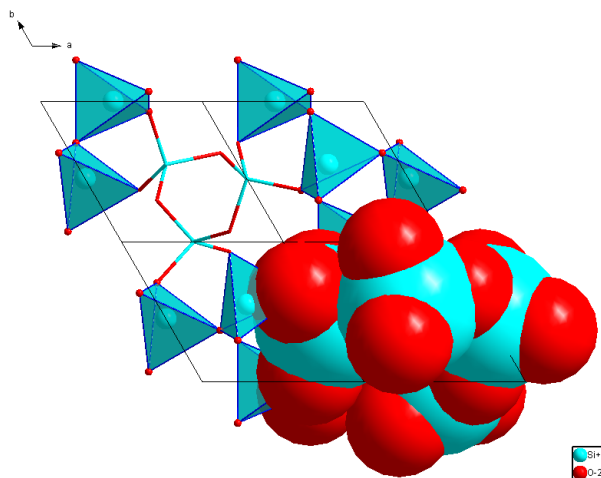

Fig. 21: Three models in the same structure picture reveal different aspects of the crystal structure of quartz.
order to release the current selection. As you see, the network consisting of four-bonded (Si) and two-bonded (O) atoms clearly becomes visible (fig. 21).